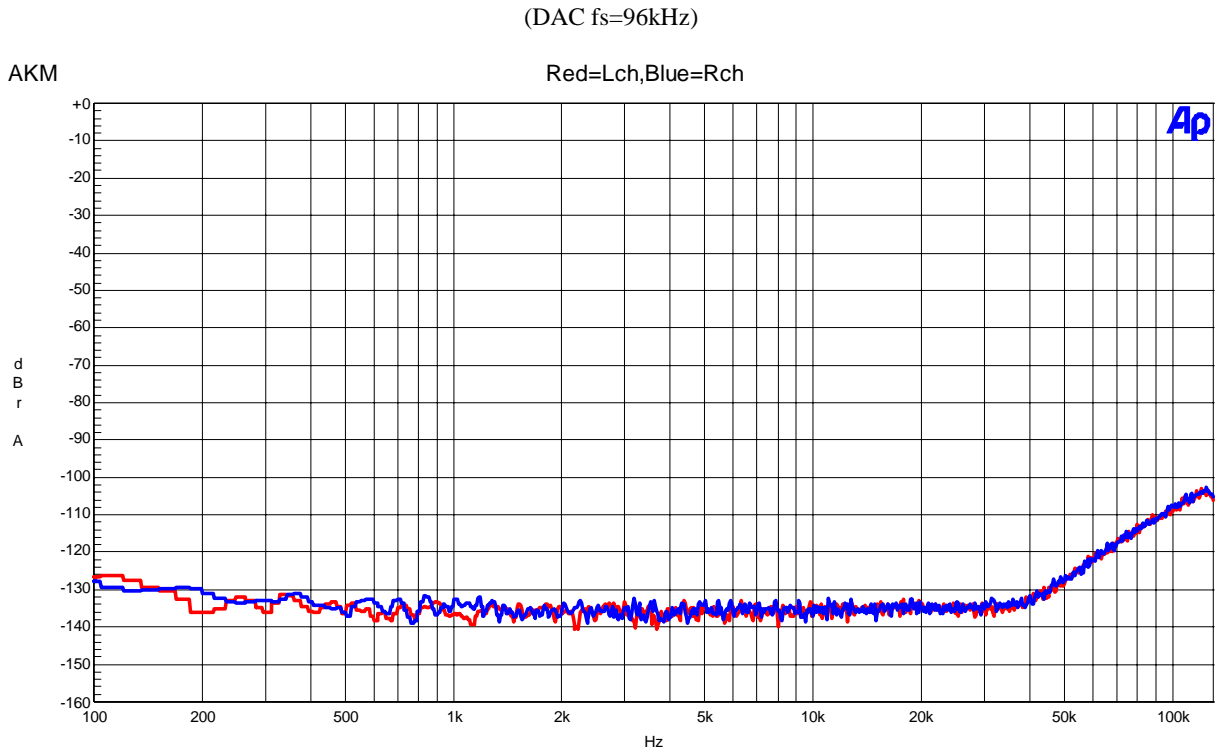

Figure 37. FFT (out-of-band noise)
- Figure 37. THD+N vs fin (Input Level=0dBFS)